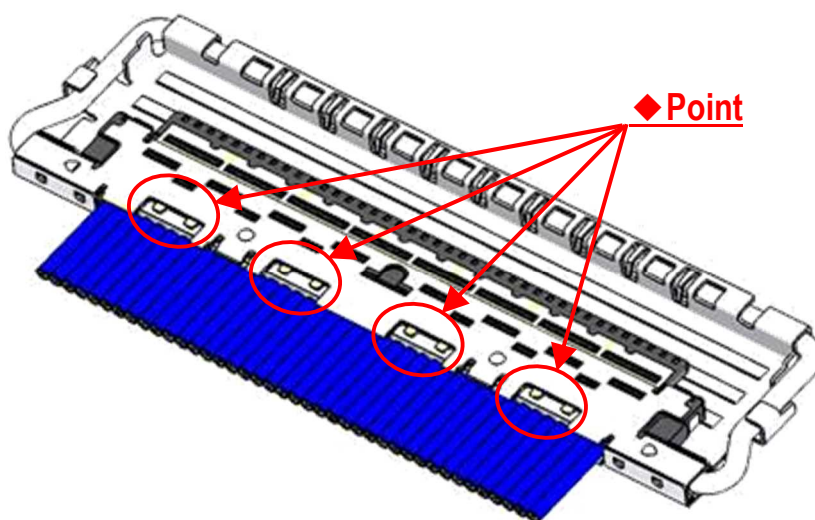

Fig.11 Soldering of SHELL-B and GND BAR
- ⑤Soldering SHELL-A and SHELL-B with the soldering iron at all designated points is recommended. (Fig.11◆point)